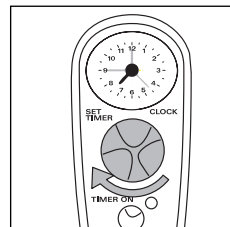

fig. 11
- 1 Turn the knob until the red pointer indicates the time when you want the coffee to be ready (fig. 11).